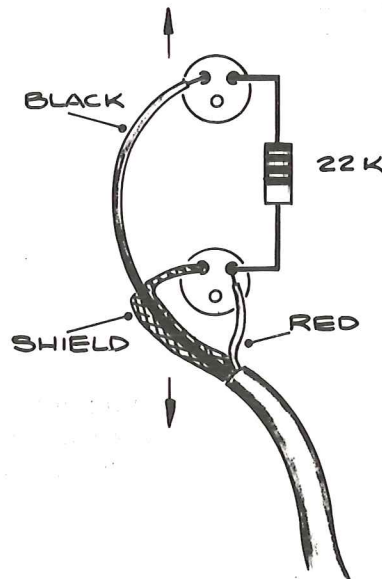

Fig 1
- () 5. Push the bulbs forward as far as they will go and solder the cable and 27 k resistor (from kit) as indicated in Fig 1 (viewed from rear).